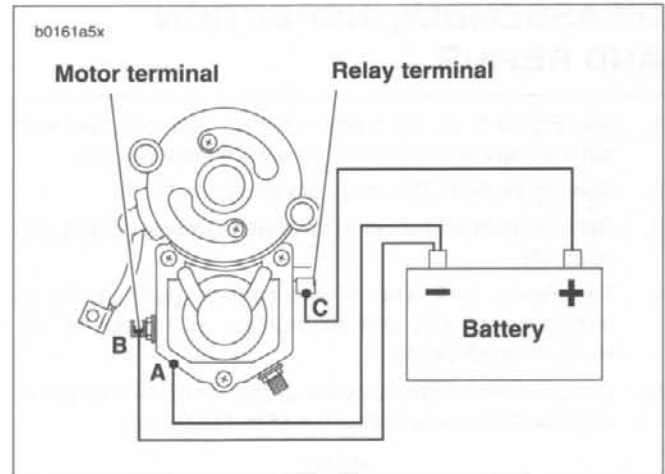

Figure 5-12. Pull-In Test
Do not disassemble solenoid. Before testing, disconnect field wire from motor terminal as shown in Figure 5-12.
1. See Figure 5-12. Using a 12 volt battery, connect three separate test leads as follows: